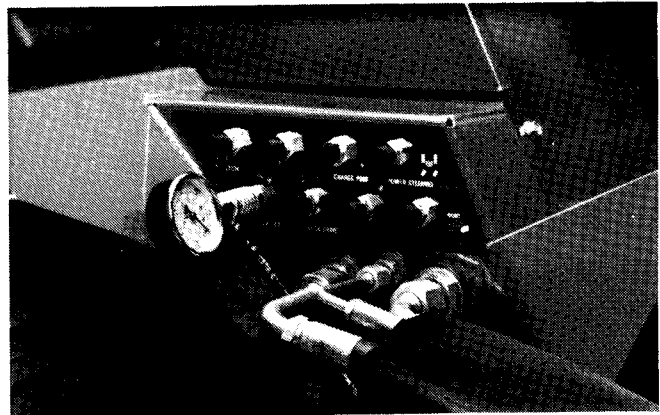
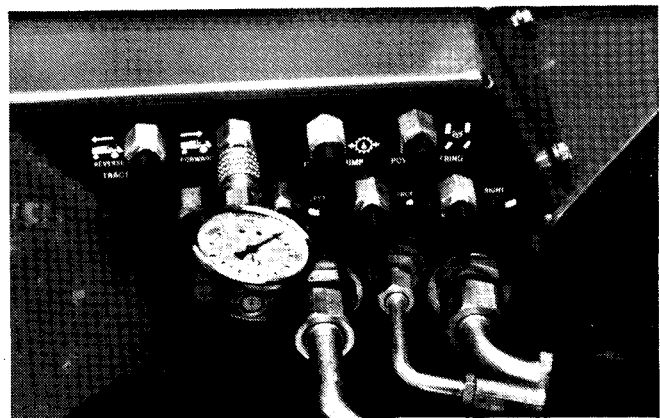

Figure 13
Figure 14
1. Connect a 1,000 psi gauge to LIFT test port (Fig. 13).
1. Connect a 1,000 psi gauge to LIFT test port (Fig. 13). Connect a 5,000 psi gauge to TRACTION FORWARD test port (Fig. 14).